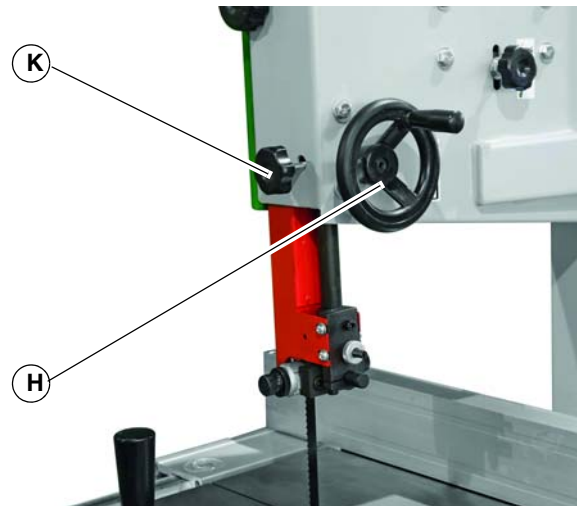

Fig. 13: Protective device
If the saw blade does not run centrally on the rollers, the saw blade must be readjusted. To do this, loosen the clamping screw (Pos. K, Fig. 13) and tilt the upper roller with the hand wheel (item H, Pos. 13) either forwards or backwards, then check the running again. To obtain correct running, this procedure may have to be repeated several times.
Step 2: To adjust the height, open the clamping screw (K) and turn the handwheel (Pos. H, Fig. 13) until the desired height is reached. Then tighten the clamping screw (Pos. K, Fig. 13) again..